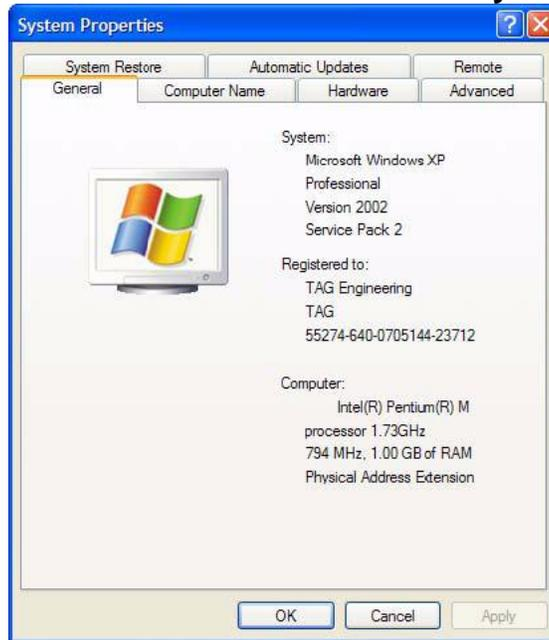

Figure 8-2 System Properties
2. Double-click the **System** icon. (Figure 8-2).